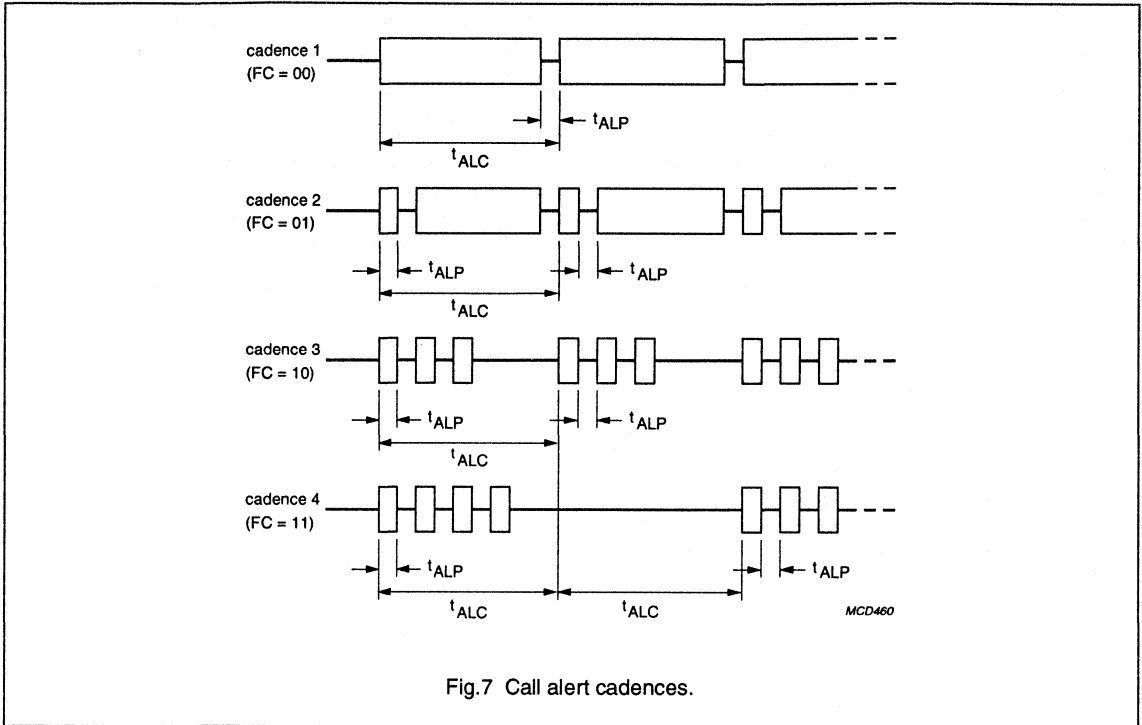

Fig.7 Call alert cadences.
The call alert cadence is modulated according to the two function bits (FC) in the received address codeword, see Fig.7.